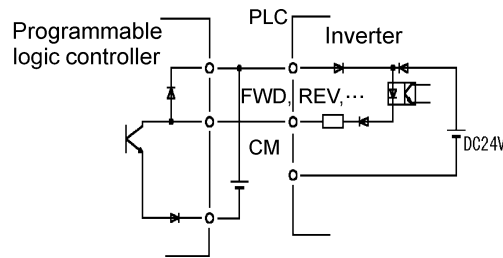

Figure 3-3-10
1) The digital input terminals such as FWD, REV, and X1-X9 are generally turned on/off between the CM terminal. If turned on/off using an external power source and open collector outputs from the programmable logic controller, the terminals may malfunction due to current leak from the external power source. In this case, connect the external power source using the PLC terminal as shown in Figure 3-3-10.